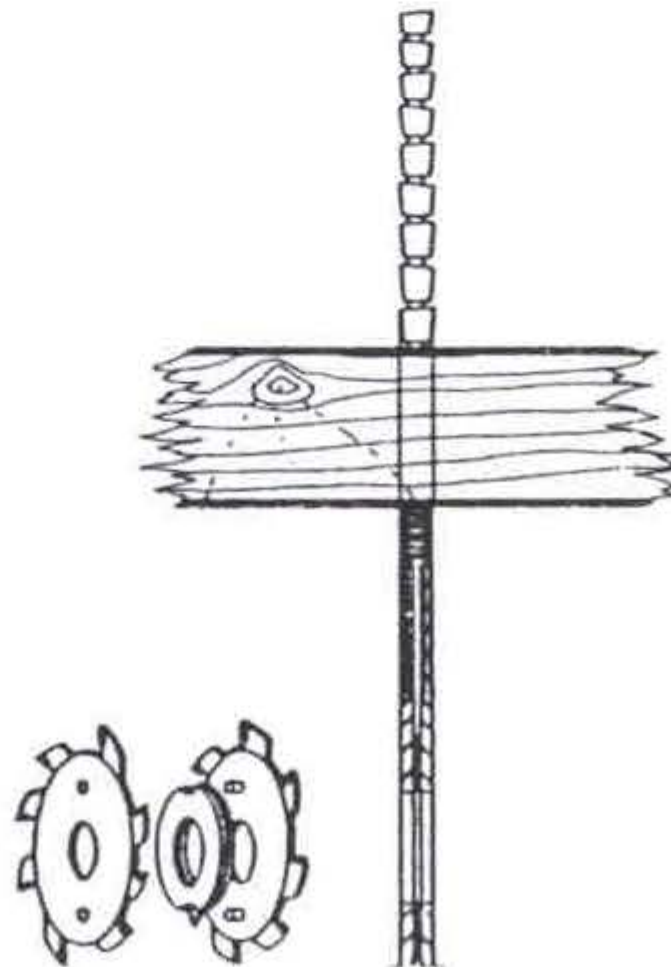

Fig. 31
- By using a double scoring blade: setting between the two elements appropriate shims, it is possible to obtain the right thickness or one that is slightly larger than the thickness of the main saw disk (fig. 31).